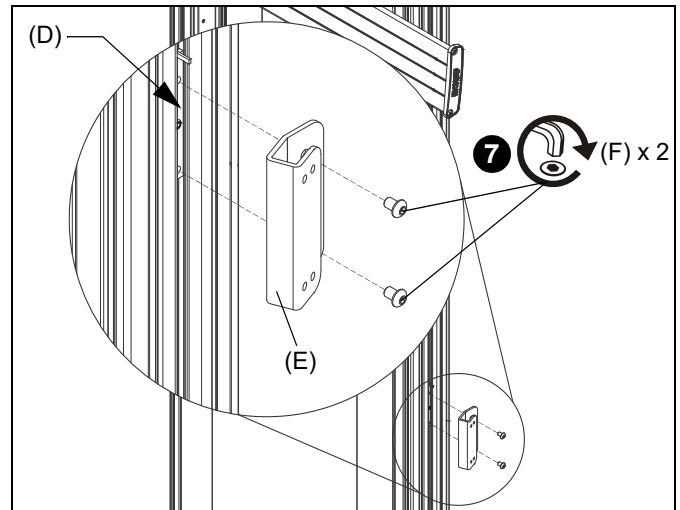

Figure 5
7. Install two 1/4-20 x 3/8" button head cap screws (F) through upper and lower holes on adapter bracket (E) and accessory bracket (D). (See Figure 5)
10. Hang shelf support (B or C) onto top screw installed in Step 6. (See Figure 5)